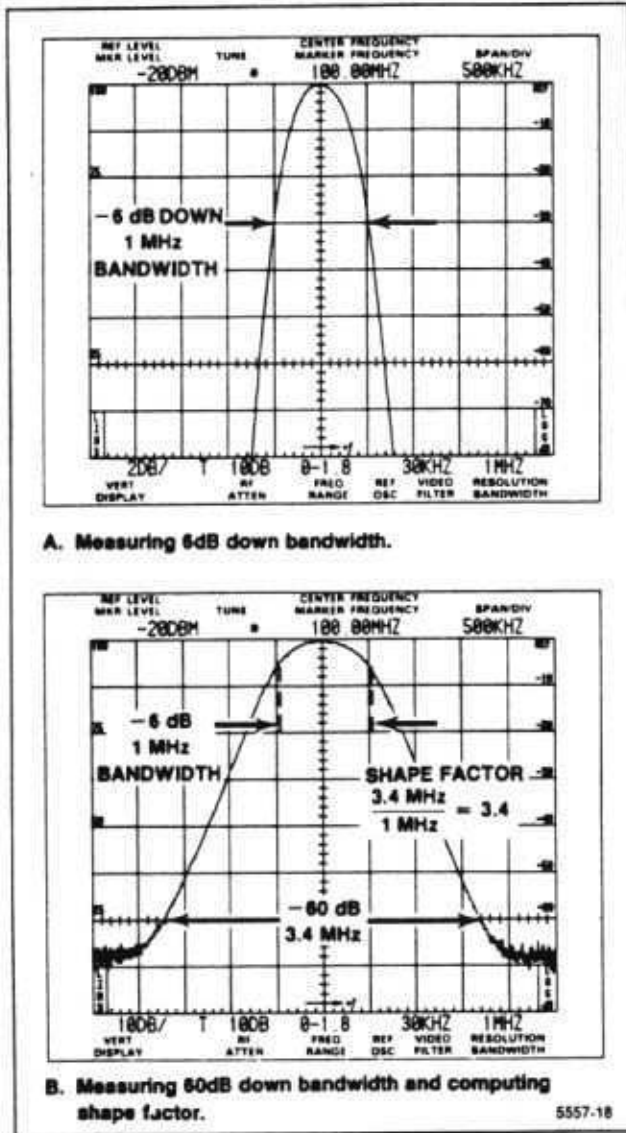

Figure 5-4. Displays that illustrate how bandwidth and shape factor are determined.
d. Calculate the shape factor as the ratio of -60 dB/ -6 dB bandwidths (see Figure 5-4). Shape factor should equal 7.5:1 or less.